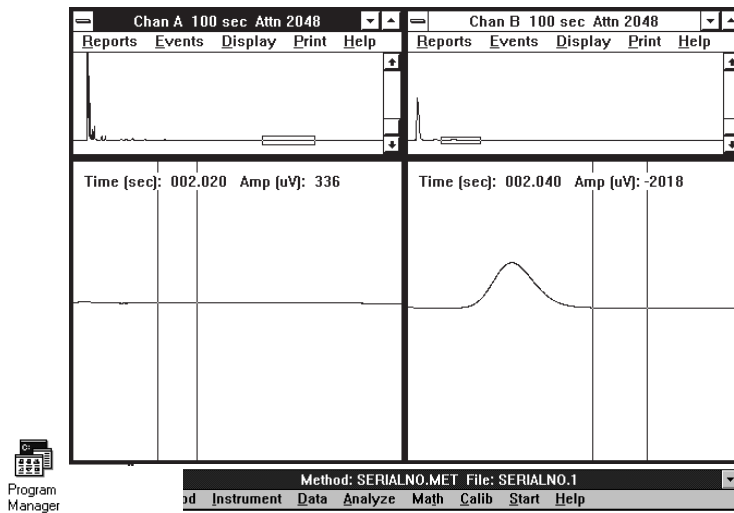

Figure 29 Using vertical cursors to determine noise level
5. Again using the vertical cursors, select a small region (about 2 seconds) on the baseline of the channel A chromatogram which does **not** contain any portion of a peak (See Figure 29). This region will be used to determine the noise level in the chromatogram.